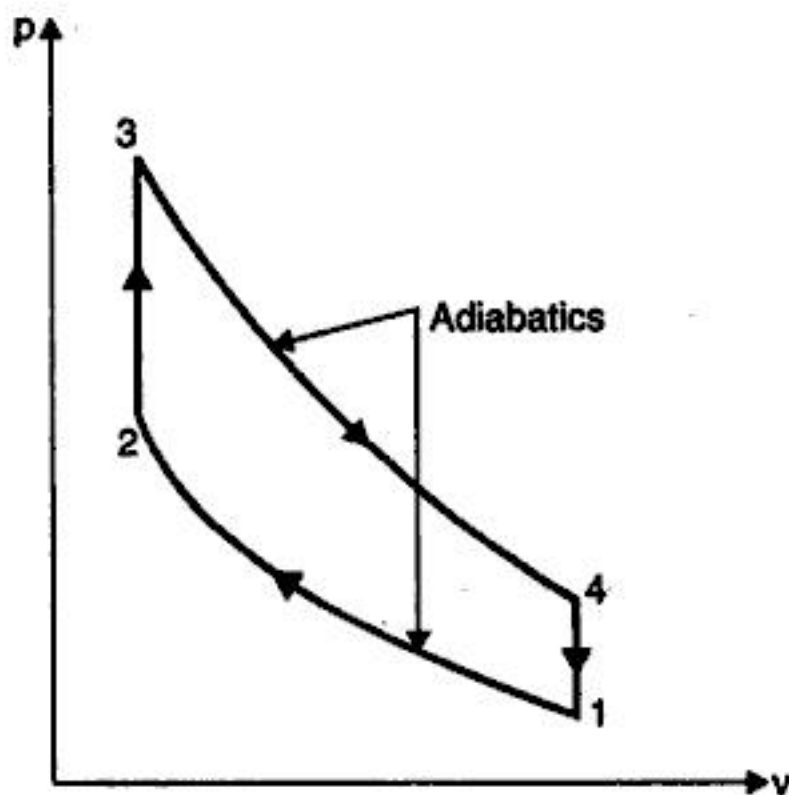

Fig. 3.8
**Solution.** Refer Fig. 3.8. Given :  $\frac{v_1}{v_2} = \frac{v_4}{v_3} = r = 6$  ;  $p_1 = 0.1 \text{ MPa} = 1 \text{ bar}$  ;  $T_1 = 27 + 273 = 300 \text{ K}$  ;  $T_3 = 1569 + 273 = 1842 \text{ K}$  ;  $\gamma = 1.4$ .